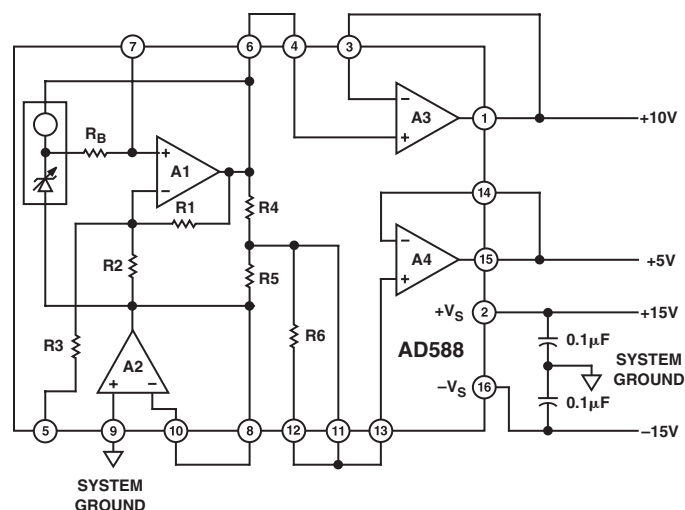
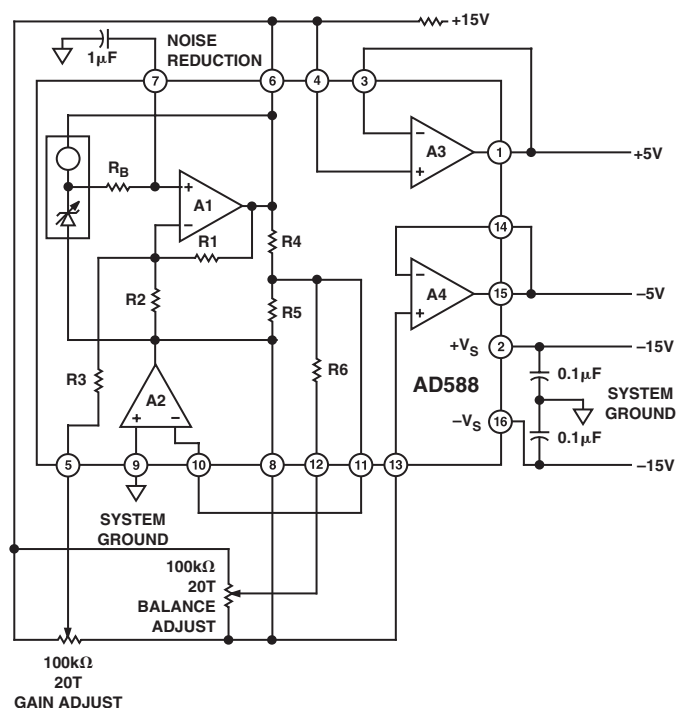
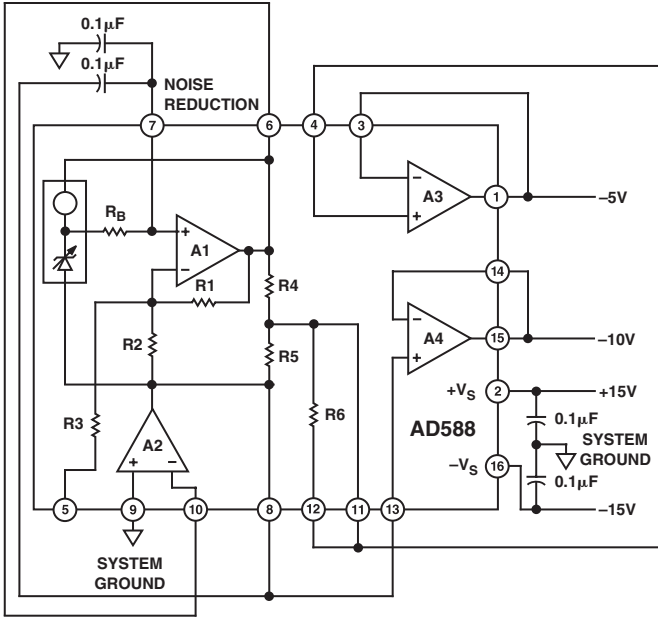
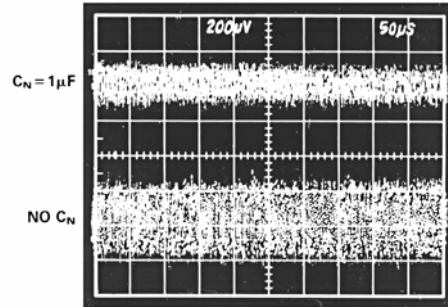

Figure 2a. +10 V Output
Figure 2b. +5 V and -5 V Outputs
Figure 2c. -10 V Output
Figure 4. Effect of 1 μF Noise Reduction Capacitor on Broadband Noise
+10 V	Figure 2a
-10 V	Figure 2c
+5 V, -5 V, ±5 V	Figure 2b
The AD588 can be configured to provide +10 V and -10 V reference outputs as shown in Figures 2a and 2c, respectively. It can also be used to provide +5 V, -5 V, or a ±5 V tracking reference, as shown in Figure 2b. Table I details the appropriate pin connections for each output range. In each case, Pin 9 is connected to system ground and power is applied to Pins 2 and 16.
The architecture of the AD588 provides ground sense and uncommitted output buffer amplifiers that offer the user a great deal of functional flexibility. The AD588 is specified and tested in the configurations shown in Figure 2a. The user may choose to take advantage of the many other configuration options available with the AD588. However, performance in these configurations is not guaranteed to meet the extremely stringent data sheet specifications.
As indicated in Table I, a +5 V buffered output can be provided using amplifier A4 in the +10 V configuration (Figure 2a). A -5 V buffered output can be provided using amplifier A3 in the -10 V configuration (Figure 2c). Specifications are not guaranteed for the +5 V or -5 V outputs in these configurations. Performance will be similar to that specified for the +10 V or -10 V outputs.
Amplifiers A3 and A4 can be used interchangeably. However, the AD588 is tested (and the specifications are guaranteed) with the amplifiers connected as indicated in Figure 2a and Table I. When either A3 or A4 is unused, its output force and sense pins should be connected and the input tied to ground.
Figure 2b shows GAIN and BALANCE trims in a +5 V and -5 V tracking configuration. A 100 k $\Omega$  20-turn potentiometer is used for each trim. The potentiometer for GAIN trim is connected between Pin 6 ( $V_{HIGH}$ ) and Pin 8 ( $V_{LOW}$ ) with the wiper connected to Pin 5 (GAIN ADJ). The potentiometer is adjusted to produce exactly 10 V between Pin 1 and Pin 15, the amplifier outputs. The BALANCE potentiometer, also connected between Pin 6 and Pin 8 with the wiper to Pin 12 (BAL ADJ), is then adjusted to center the span from +5 V to -5 V.
If further noise reduction is desired, an optional capacitor,  $C_N$ , may be added between the NOISE REDUCTION pin and ground, as shown in Figure 2b. This will form a low-pass filter with the 4 kΩ  $R_B$  on the output of the Zener cell. A 1 μF capacitor will have a 3 dB point at 40 Hz and will reduce the high frequency (to 1 MHz) noise to about 200 μV p-p. Figure 4 shows the 1 MHz noise of a typical AD588 both with and without a 1 μF capacitor.
Note that a second capacitor is needed in order to implement the NOISE REDUCTION feature when using the AD588 in the -10 V mode (Figure 2c.). The NOISE REDUCTION capacitor is limited to 0.1 μF maximum in this mode.